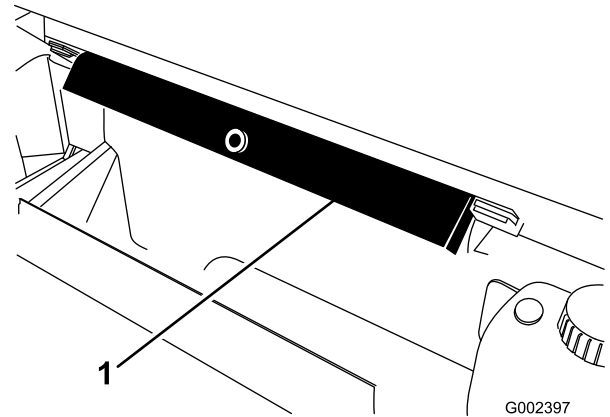

Figure 33
2. Remove the bed support from the storage brackets on back of the ROPS panel (Figure 33).